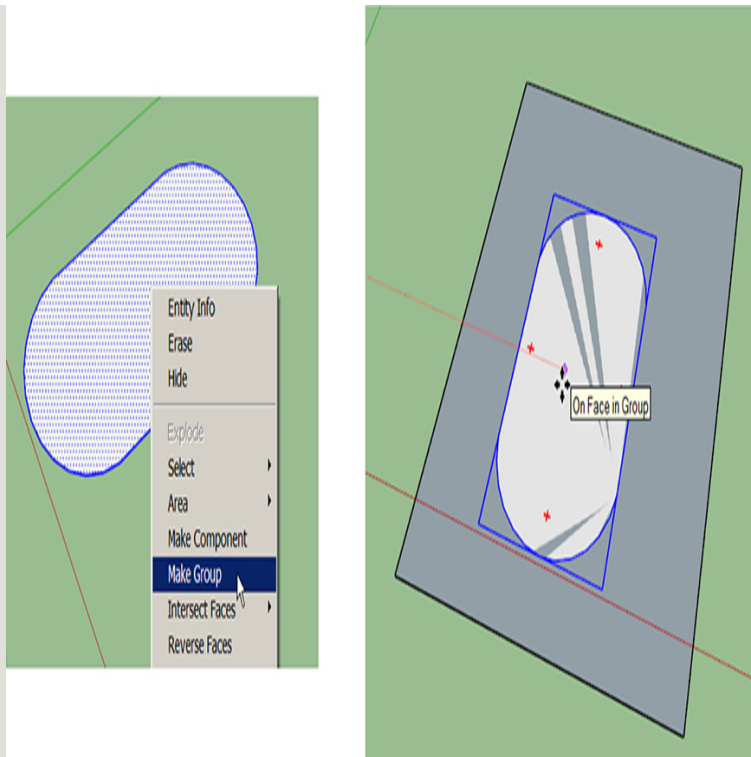

Figure 4-30 Move the grouped nail onto a grouped rectangle.
- 6.** Group the nail. Then make a rectangle to use as a drawing surface and group it. Move the nail onto the rectangle (Figure 4-30). By now you may have noticed the “flashing” that occurs when two planes are adjacent. This happens because SketchUp doesn’t know which plane to display. It doesn’t affect anything, though.